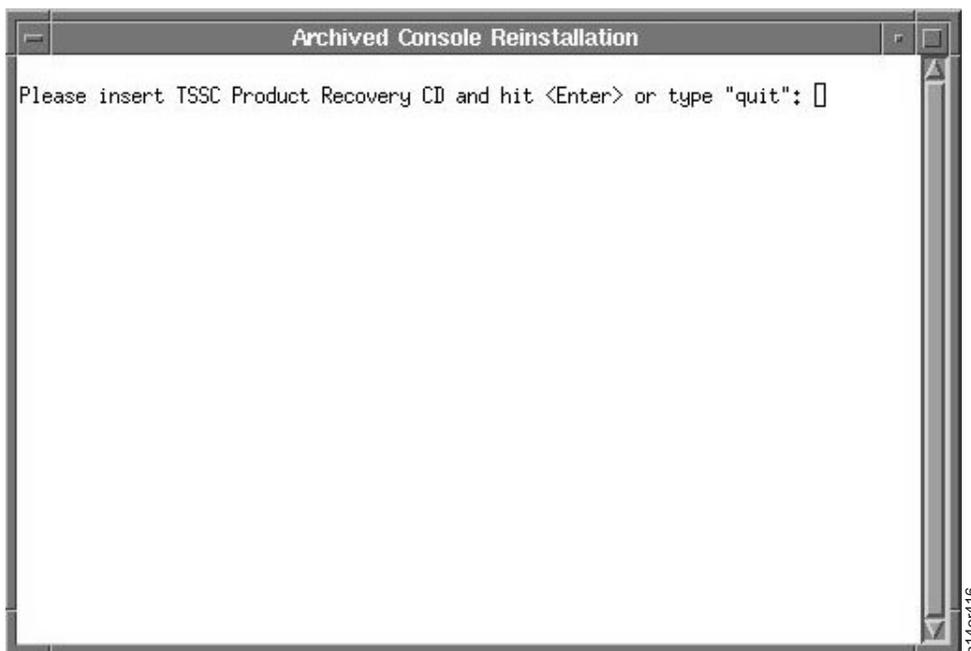

Figure 230. Prompt for TSSC Product Recovery CD.
4. From the Main Menu, select **System Console Actions > Disk Rebuild and Restore Config**. You will see Figure 230.